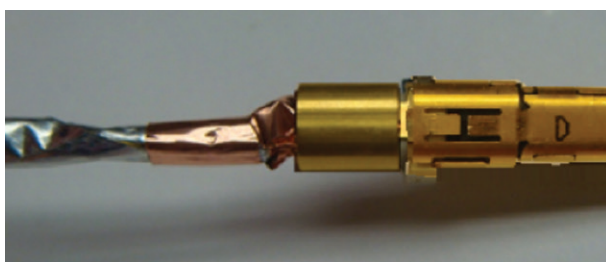

Figure 32: Positioning the ferrule
24. Slide the oval ferrule down the cable, over the ears until it fits snugly to the outer body (Figure 32).